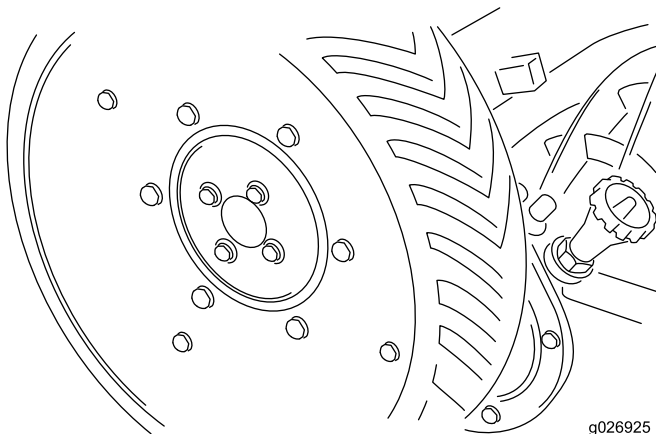

Figure 3
4. Install drive wheels with capscrews and lockwashers (Figure 3). Do not try to install the wheels over the shipping caps